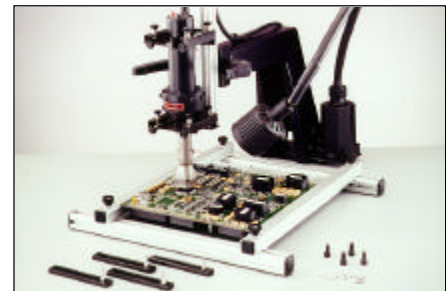

Figure 2: Rework stand holds hot air rework tool steady and positioning table keeps PC board level.
1. Place the pre-heated PC board on the Positioning Table. A heated positioning table is available to pre-heat the PC board, or can be used to maintain the pre-heated temperature when many components need to be removed from one PC board. (See Figure 2).